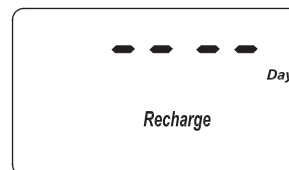

FIG. 30
1. Press and hold the PROGRAM button until the screen in Figure 27 is displayed. Once in this display, press the PROGRAM button four times and the display in Figure 30 is shown.